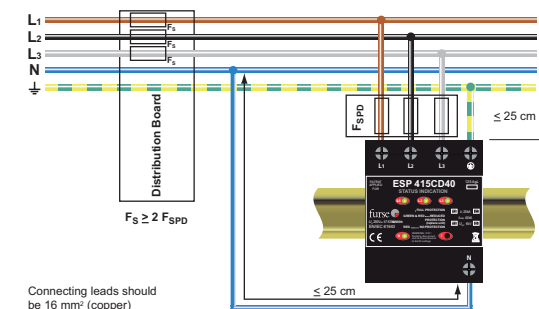

Figure 2: Parallel connection for three phase star (4 wire and earth) supplies.
Connections are made to each supply conductor including earth (see Figure 2). Terminals marked L1, L2, L3, N, \neq must be connected to phase/live, neutral and earth respectively. Under no circumstances must the ESP Protector be installed without connection to its neutral. Maximum torque is 4.5 Nm for power terminals, with cable stripping length 11 mm. The torque rating for the volt-free contacts is 0.25 Nm and cable stripping length 7 mm. Where no neutral is present (eg delta supplies) the neutral (N) terminal on the ESP Protector must be connected to earth in addition to the earth (\neq) terminal. This will result in a greatly increased earth leakage current. On some delta supplies the voltage between phase and earth may exceed the rating of the ESP Protector.